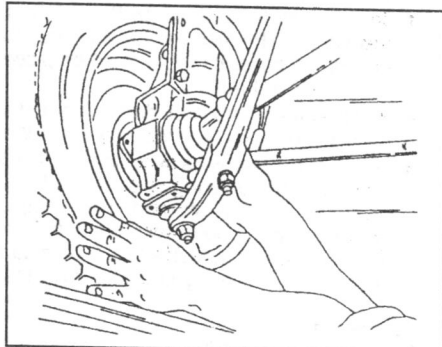

Fig. 4.5. — Pull the suspension arm downwards the push the wheel outwards to remove the L.H. drive shaft.
- Grip the suspension arm as shown in Fig. 4.5. Pull the arm downwards, at the same time pushing the wheel towards the outside until the shaft is completely free.